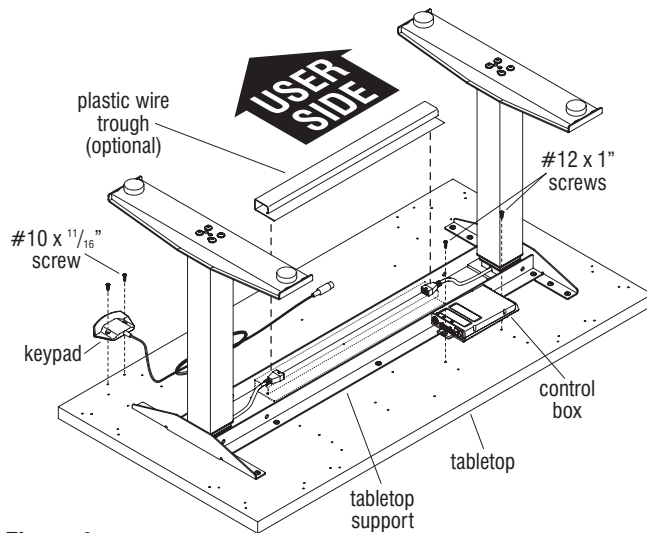

Figure 4
1. Attach the keypad at the left- or right-hand front edge of the table using (two screws for standard keypad) or (four screws for memory display keypad) #10 x $\frac{11}{16}$ " tapping screws (Figure 4).
2. Position and mount the control box to the underside of the tabletops at one of two pre-drilled hole locations. Attach the control box at the left- or right-hand side of the tabletop behind the tabletop support using two #12 x 1" screws (Figure 4).
3. If the optional plastic wire trough was ordered, expose the two sided tape and install it between the two steel angles of the tabletop support (Figure 4).